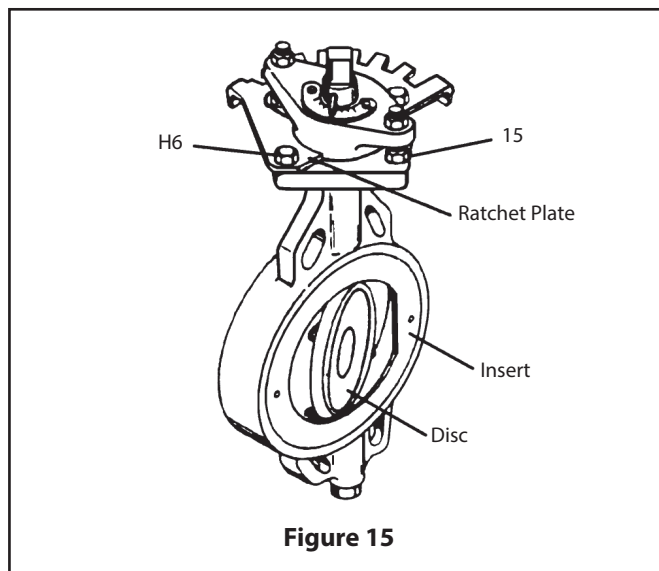

Figure 15
11. If the handle ratchet plate or the actuator base plate has been removed from the valve, reinstall it in the orientation shown in (**Figure 15 or Figure 18**). Install lockwashers and screws in the two bonnet holes not used by the studs and install the lower lockwashers (16) and nuts (15) on the studs. Do not tighten the screws and nuts until the stops are set (see **SETTING ADJUSTMENTS** Section).
12. Install blowout spacer (75) (3", 4" and 6" [DN 80, 100 and 150] 860 **ONLY**). Place the compression plate (10) over the shaft (4) and studs (14). Orient the plate so that the indicator pointer will be over the indicator plate. Install the lockwashers (16) and nuts (15), but do not tighten. Install the indicator pointer in the shaft.
13. Install the lower bearing spacer (43), when applicable. Place the plug seal (42) in the recess at the bottom of the valve and install the plug (11). Torque the plug until it is flush with the body. A small (1/16" [1.6 mm]) tack weld on the corner of the plug is recommended. **CAUTION:** A larger tack weld is apt to have enough heat to damage the seal.
If it is necessary to orient the actuator in a different quadrant (**Figure 15 and 16**):
7.3 Setting Handle Stop (Figure 15)